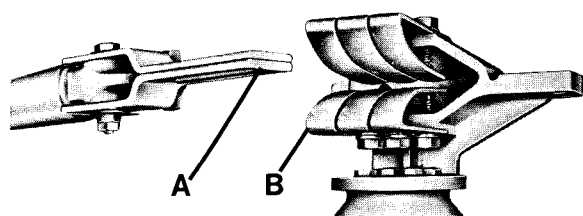

Fig. 4 Blade and jaw contact
After aligning the insulator stacks, close the switch by hand to see if blade contact (A) properly engages jaw contact (B), Fig. 4.